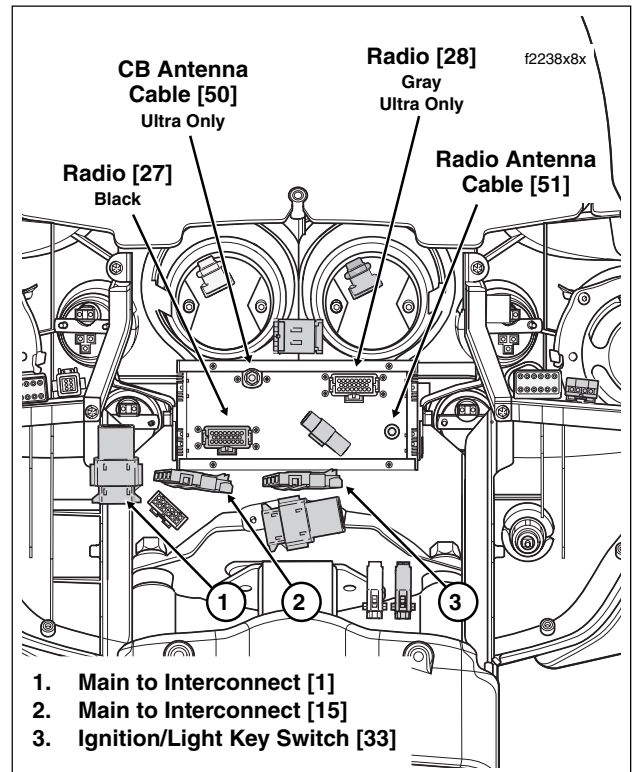

Figure 8-136. Radio Connections - FLHTCU
4. See Figure 8-136. Separate pin and socket halves of the following connectors:
4. See Figure 8-136. Mate pin and socket halves of the following connectors: